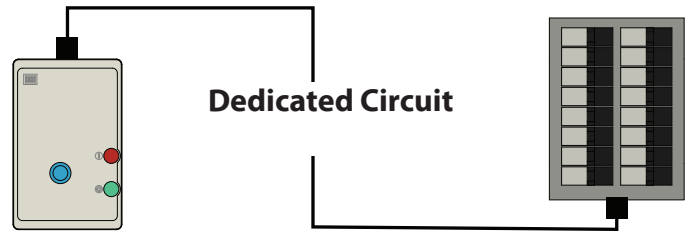

FIG. 7
- 7** The power circuit connected to the starter should be fed from a dedicated circuit breaker [FIG. 7] or disconnect with fuses. Don't connect any branch circuits to the magnetic starter power circuit. The over current protection (circuit breaker or fuse) for the starter power circuit is to be sized per Article 430.32 of the NEC.